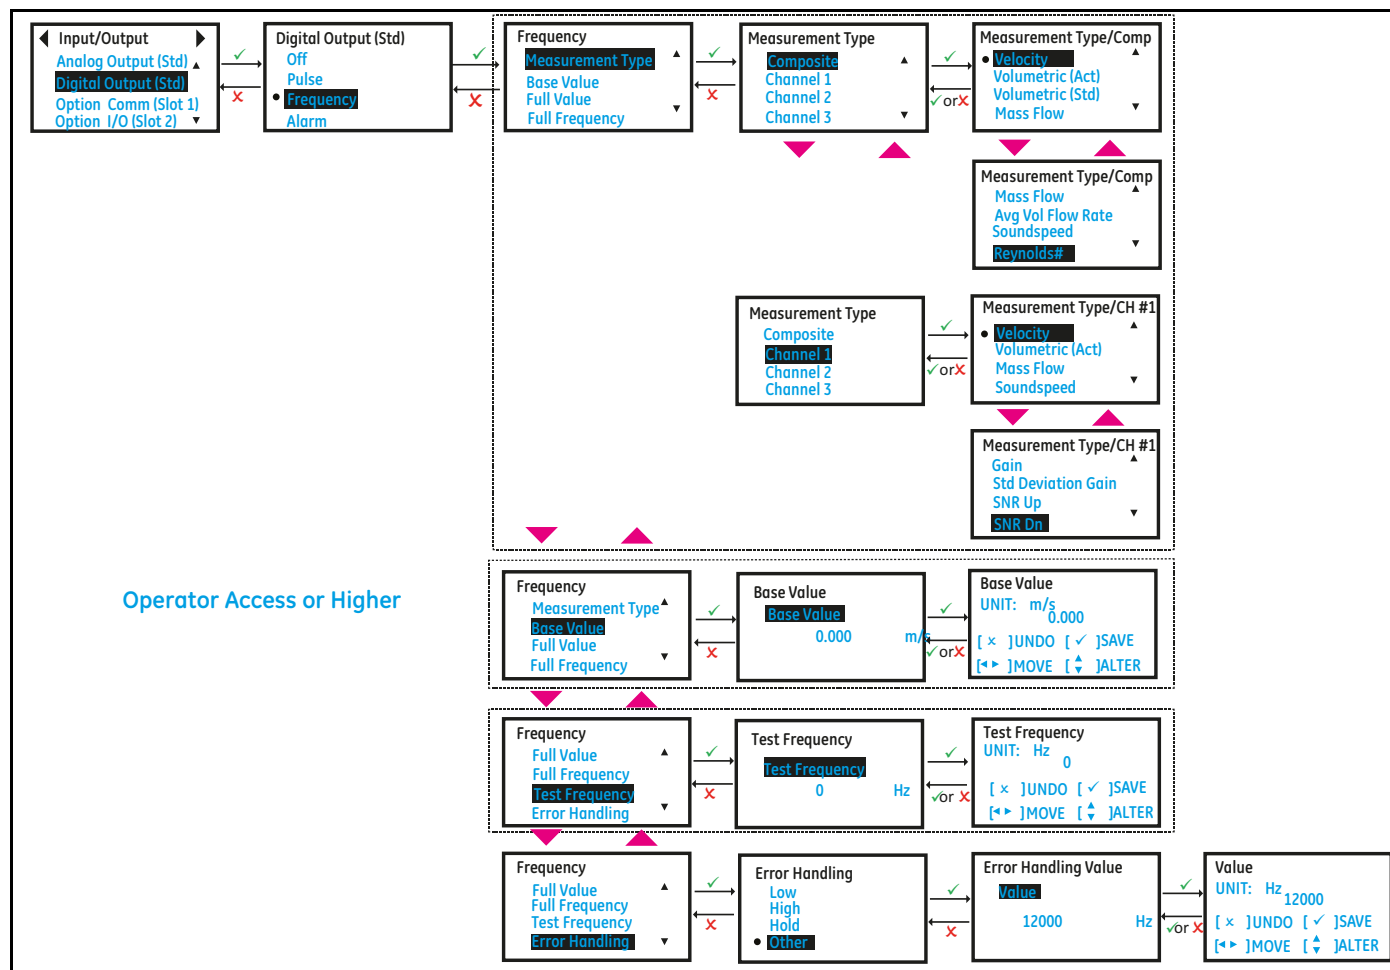

Figure 25: Setting up Frequency Output
2. Setup the **[Measurement]**, **[Base Value]**, **[Full Value]**, **[Full Frequency]** and **[Error Handling]** options to suit your needs. The Figure 25 below, shows the available options. Also refer to the Table 8 below to understand each option.